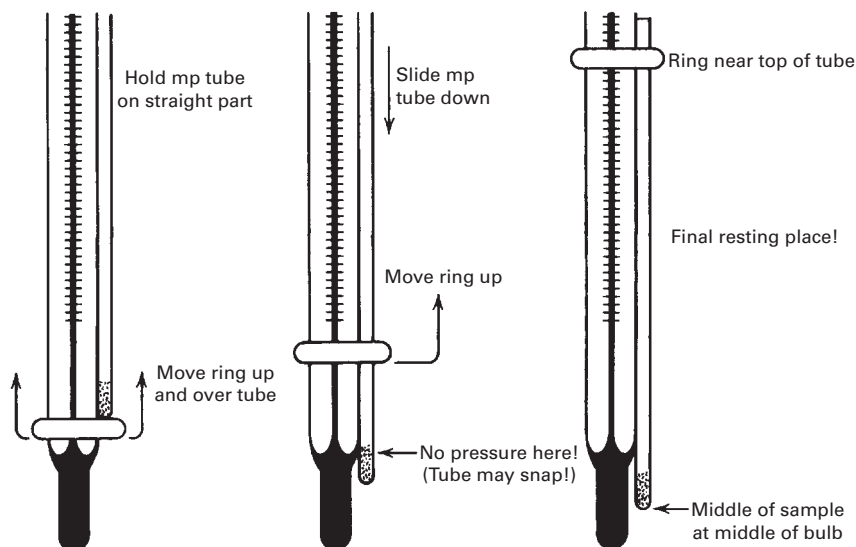

FIGURE 12.12 Attaching the mp tube to the thermometer without a disaster.
2. Put the *bottom* of the loaded mp tube *just above* the place where the thermometer constricts (Fig. 12.12), and carefully roll the rubber ring onto the mp tube.